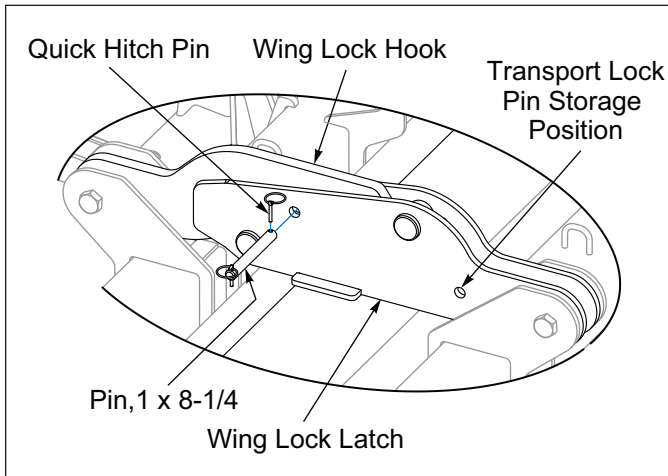

Figure 3-10: Wing Fold Lock Transport Lock Engaged
7. Install Wing Fold Lock Transport Lock Pin. This Transport Lock Pin ensures that the Wing Fold Lock does not come apart while transporting. See Figure 3-10.
7. Install Wing Fold Lock Transport Lock Pin. This Transport Lock Pin ensures that the Wing Fold Lock does not come apart while transporting. **See Figure 3-10.**
8. Install Wing Fold Lock Transport Lock Pin. This Transport Lock Pin ensures that the Wing Fold Lock does not come apart while transporting. **See Figure 3-10.**